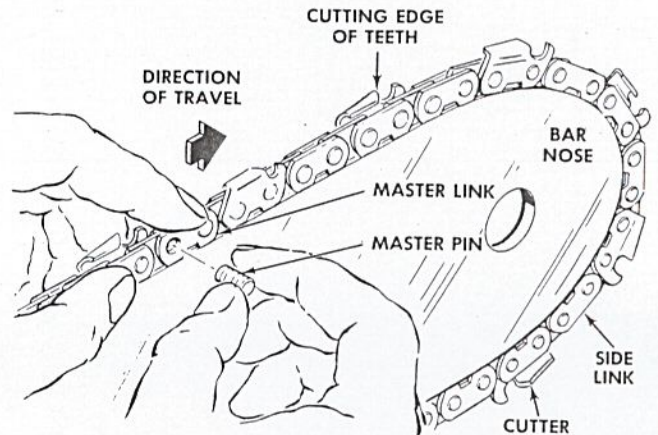

FIGURE 4
7. Fasten the chain ends together with the master pin. (Figure 4).